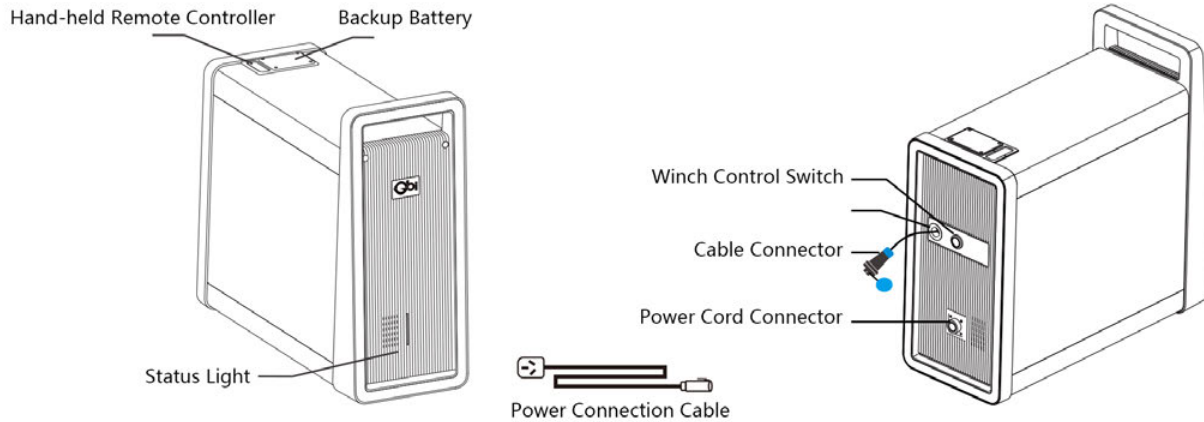
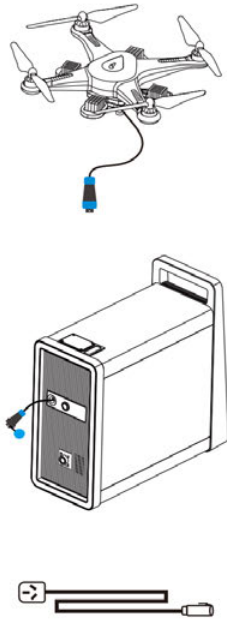
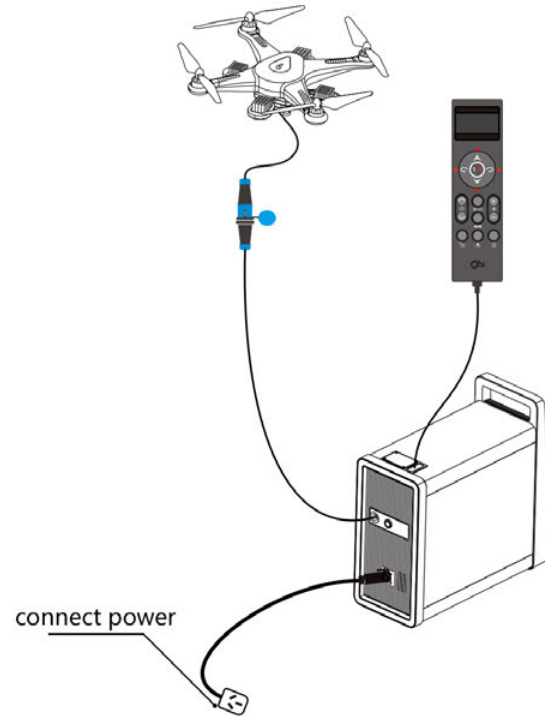

Figure 3: Schematic Diagram Of The Components Of The Tethered Box
Figure 4-1: Schematic Diagram Of The Initial State Of The System
Figure 4-2: Schematic Diagram Of The Final Connection Of The System
a. Components Of The Tethered Box System (Refer To Figure 3)
- ① The Tethered Box: Mainly includes components such as automatic cable winding device, mooring cable, power connection cable, hand-held remote controller, backup battery, etc.
- ② Automatic Cable Winding Device: Used for automatic recovery of mooring cable.
- ③ Tether Cable: Used for supplying power to the drone and lighting system.
- ④ Hand-held remote controller: Used for controlling the drone and lighting system.
- ⑤ Spare battery: Used to temporarily power the lighting drone after the integrated box loses power.
- ⑥ Power connection cable: Used to connect to an external 220V power source.
- ① With the tethered box power turned off (See Page 07, Figure 4-1), connect the mooring cable plug with the drone plug (See Page 07, Figure 4-2), and place it about 5 meters away from the tethered box.
- ② Connect the 220V power supply. Press the hand-held remote controller inside the box with your hand to make it pop out. Take out the remote controller and wait until the number of satellites displayed on the LCD screen reaches the minimum take-off standard (usually GPS signal 10 or above) before operating the drone. Fly the drone to a position about 2 meters off the ground (depending on the actual situation).
- ③ Use the hand-held remote controller to operate the drone and fly it to the appropriate position.
- ④ Use the hand-held remote controller to turn on the lighting system of the drone and illuminate the area.
- ⑤ After using the lighting drone, press the "reel switch" on the box once, and then press it again to turn it off. The system will start rewinding the cable when the circuit is connected. Press the "reel switch" again to release the line and disconnect the circuit, and the system will stop rewinding the cable.